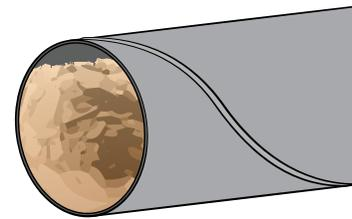

FIG. 9a
- a. Check with local agencies to ensure that your ducting is supported in a way that meets local codes. When determining the weight your hangers must support, always allow for the ducting being 100 percent clogged with whatever material is being conveyed [FIG. 9a].